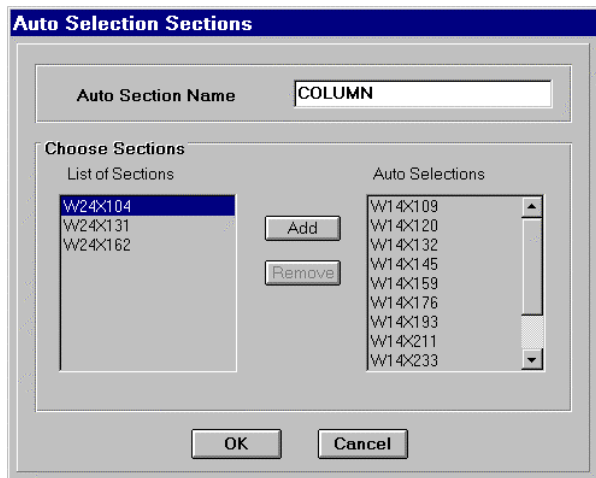

Figure 4-3 Defining the COLUMN Auto Selection group
- In the **Auto Selections** list box select and remove using the **Remove** button all the sections except the W14's. This will mean that any frame member assigned a COLUMN section will be designed from the list of W14 sections in the **Auto Selections** list box. (See Figure 4-3.)